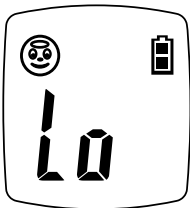

Figure 4.1
- When measurement value is lower than 95°F (35°C), it displays Lo (Figure 4.1) and gives 4 consecutive beeps and the backlight on the LCD screen will turn red.